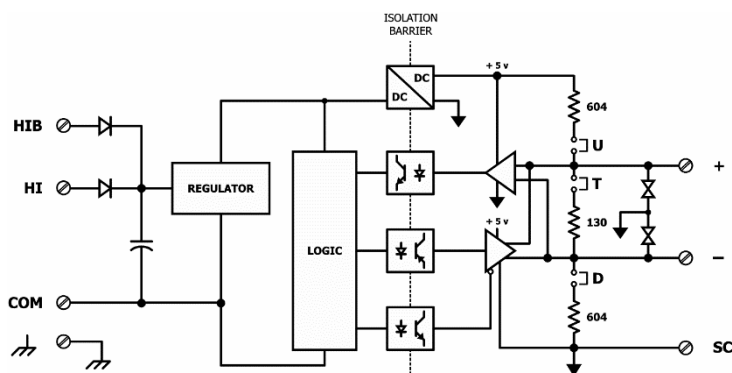

Figure 11 — Isolated EIA-485 Transceiver Circuitry
In *Figure 11* a simplified schematic of the isolated EIA-485 transceiver is shown. Notice that the transceiver common (SC) is electrically isolated from the router power supply common (COM) through the use of opto-isolators and an isolated DC-DC converter. An isolated EIA-485 transceiver offers less chance of damage to the transceiver from high common-mode voltages, but there is still a risk. Surge suppression is applied between the two differential inputs and between each input and ground. Since the transceiver is electrically isolated, the transceiver circuit common must be brought out for connection to the other devices on the MS/TP network. This is accomplished by pin SC. The differential pair is labelled + and – and corresponds to the same designations in the BACnet MS/TP standard. This requires a three-wire connection to the MS/TP network. Connecting other isolated MS/TP devices is no problem since each device requires a 3-wire connection. Just make corresponding connections. For non-isolated MS/TP devices, usually only a 2-wire connection is provided. The third wire is the power supply common. In this situation, the SC connection **MUST** be made to the power supply common of the non-isolated device. Refer to the device vendor instructions for connecting such a device.